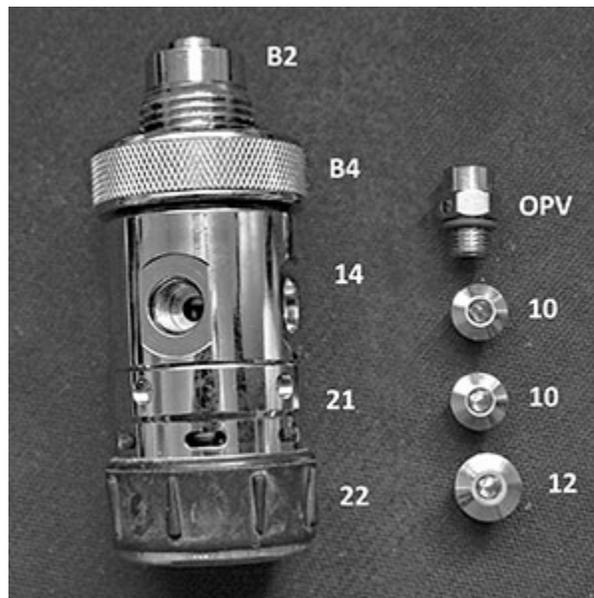

Fig. 4
1. Note the position of all hoses and port plugs (10, 12) with O-rings (11*, 13*). Remove the (OPV) - Fig. 4.